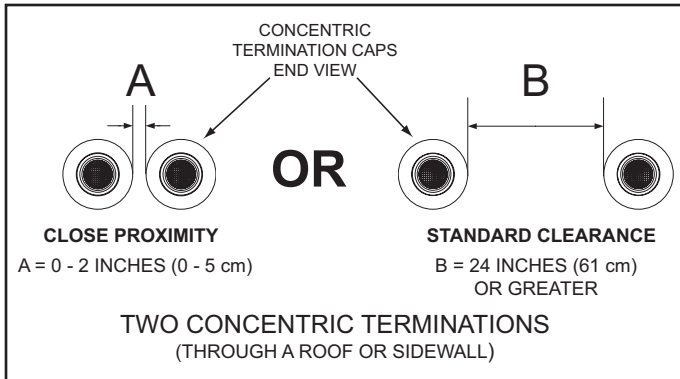
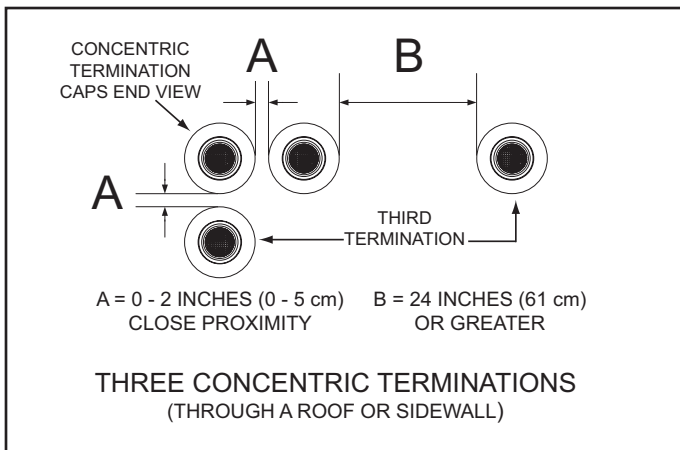
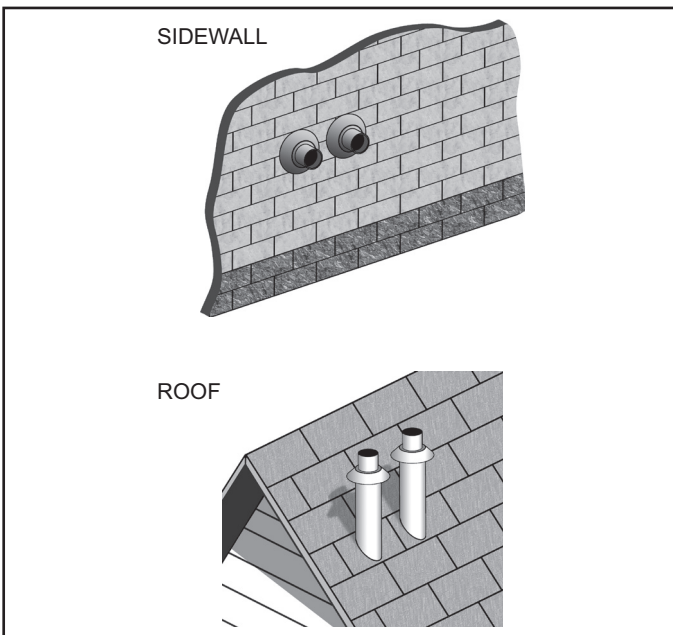

Figure 28
Figure 29
Figure 33
When installing multiple concentric terminations through a roof or through a sidewall the clearances shown in Figure 28 must be maintained.
- The clearance between multiple termination caps must be 0 inches (touching) to a maximum of 2 inches (5 cm), dimension A - Figure 28, when installing concentric terminations in close proximity. See Figure 28 through 32.
- The clearance between multiple termination caps must be increased to a minimum of 24 inches (61 cm), dimension B - Figure 28, when installation in close proximity (above) is not possible. This is the standard clearance.
- When installing three concentric terminations through a roof or through a sidewall the third termination may be installed in close proximity as indicated by dimension A in Figure 29.
- If close proximity installation of the third termination is not possible the third termination may be installed as indicated by dimension B in Figure 29.
Two concentric terminations may be installed in close proximity as shown in Figure 33 or with standard clearances when this arrangement is not possible. See Figure 28 on page 31 for detailed information on clearances. See Figure 29 on page 31 when installing three concentric terminations.